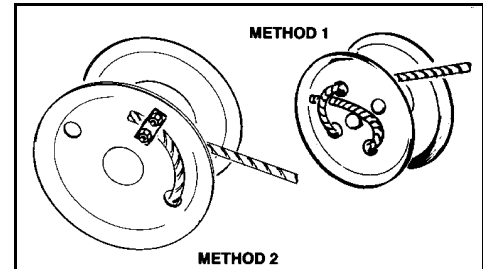

**Figure 3.15**
8. Attach upper lift arms to roller track shoe with one 3/4" x 6-1/2" bolt and locknut. Do not over-tighten. Tighten snug only; this bolt acts as a pivot point (Figure 3.15).